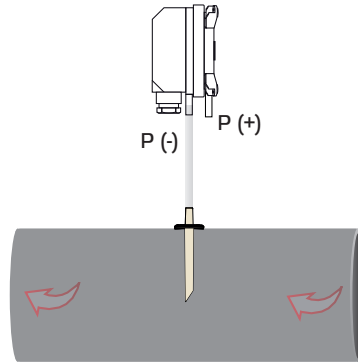

Fig. 2.2 Filter monitoring
- 3.2 Filter monitoring (Fig. 2.2)